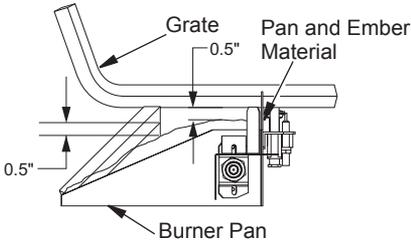

Figure 22 - Pan and Ember Material Clearances
4. Place just enough to cover entire surface and leave about a 1/2" gap under lower grate members to allow air to flow (see Figure 22, page 14).